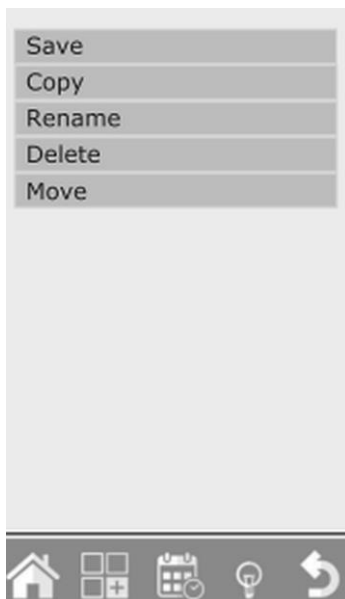

Fig. 26
1. Open the thermal processing program for removing and press 'Functions' key (20, Fig. 25), select 'Save' and then 'Remove' (Fig. 26).